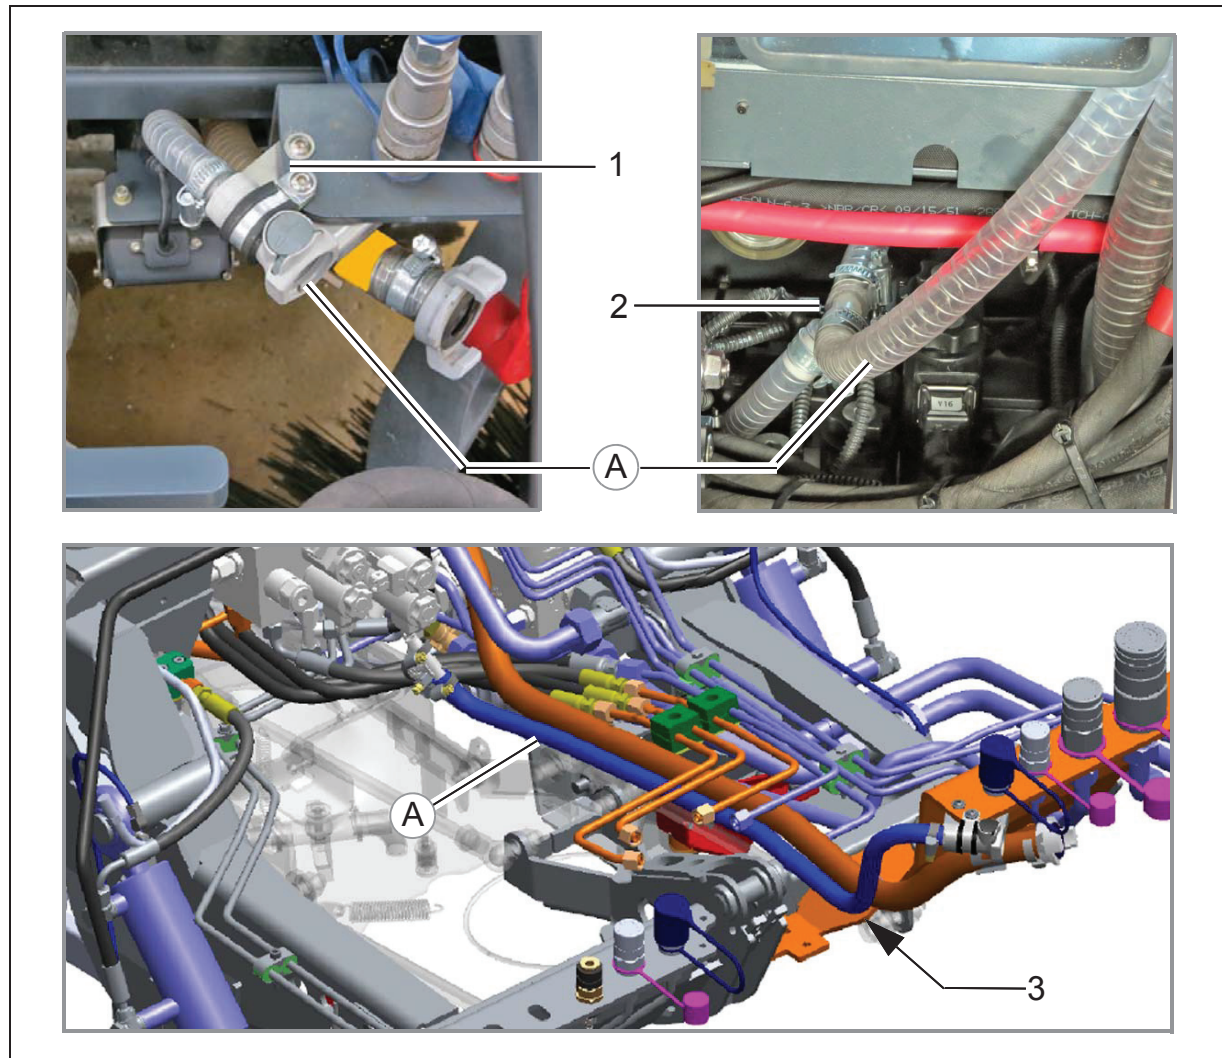

Fig.4
1. Route the fresh water hose (Fig. 4/A) for the water supply between the hose fastener (Fig. 4/1) and the T-union (Fig. 4/2).
With a suction mouth camera (optional), the fresh water hose must be routed above the bracket (Fig. 4/3) of the suction mouth camera.